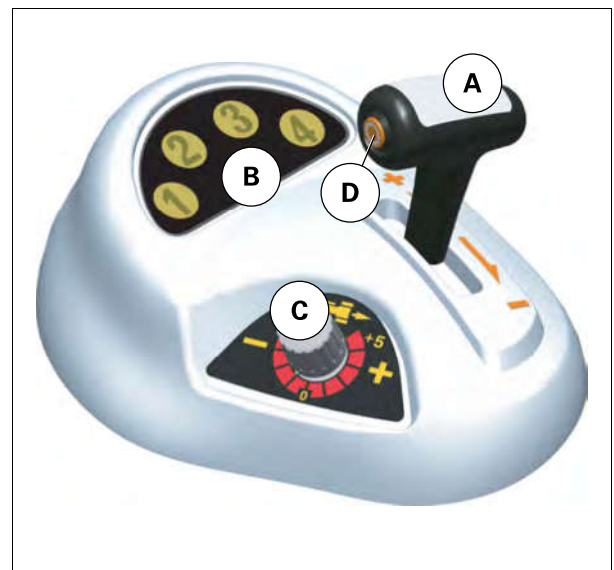

Fig. 5.
3. Place shuttle lever (E) in forward or reverse travel.
4. Move shuttle lever (E) to select the desired Powershift ratio, and also press button (D) fig. 5 to shift to a higher or lower range.
5. Move shuttle lever (E) back to neutral.
3. Keep button (D) fig. 5 pressed down.
4. Move transmission lever (A) fig. 5 to select the range and the desired Powershift ratio.
5. Release button (D) fig. 5 and the clutch pedal.
4. Keep button (D) fig. 5 pressed down.
6. Release button (D) fig. 5